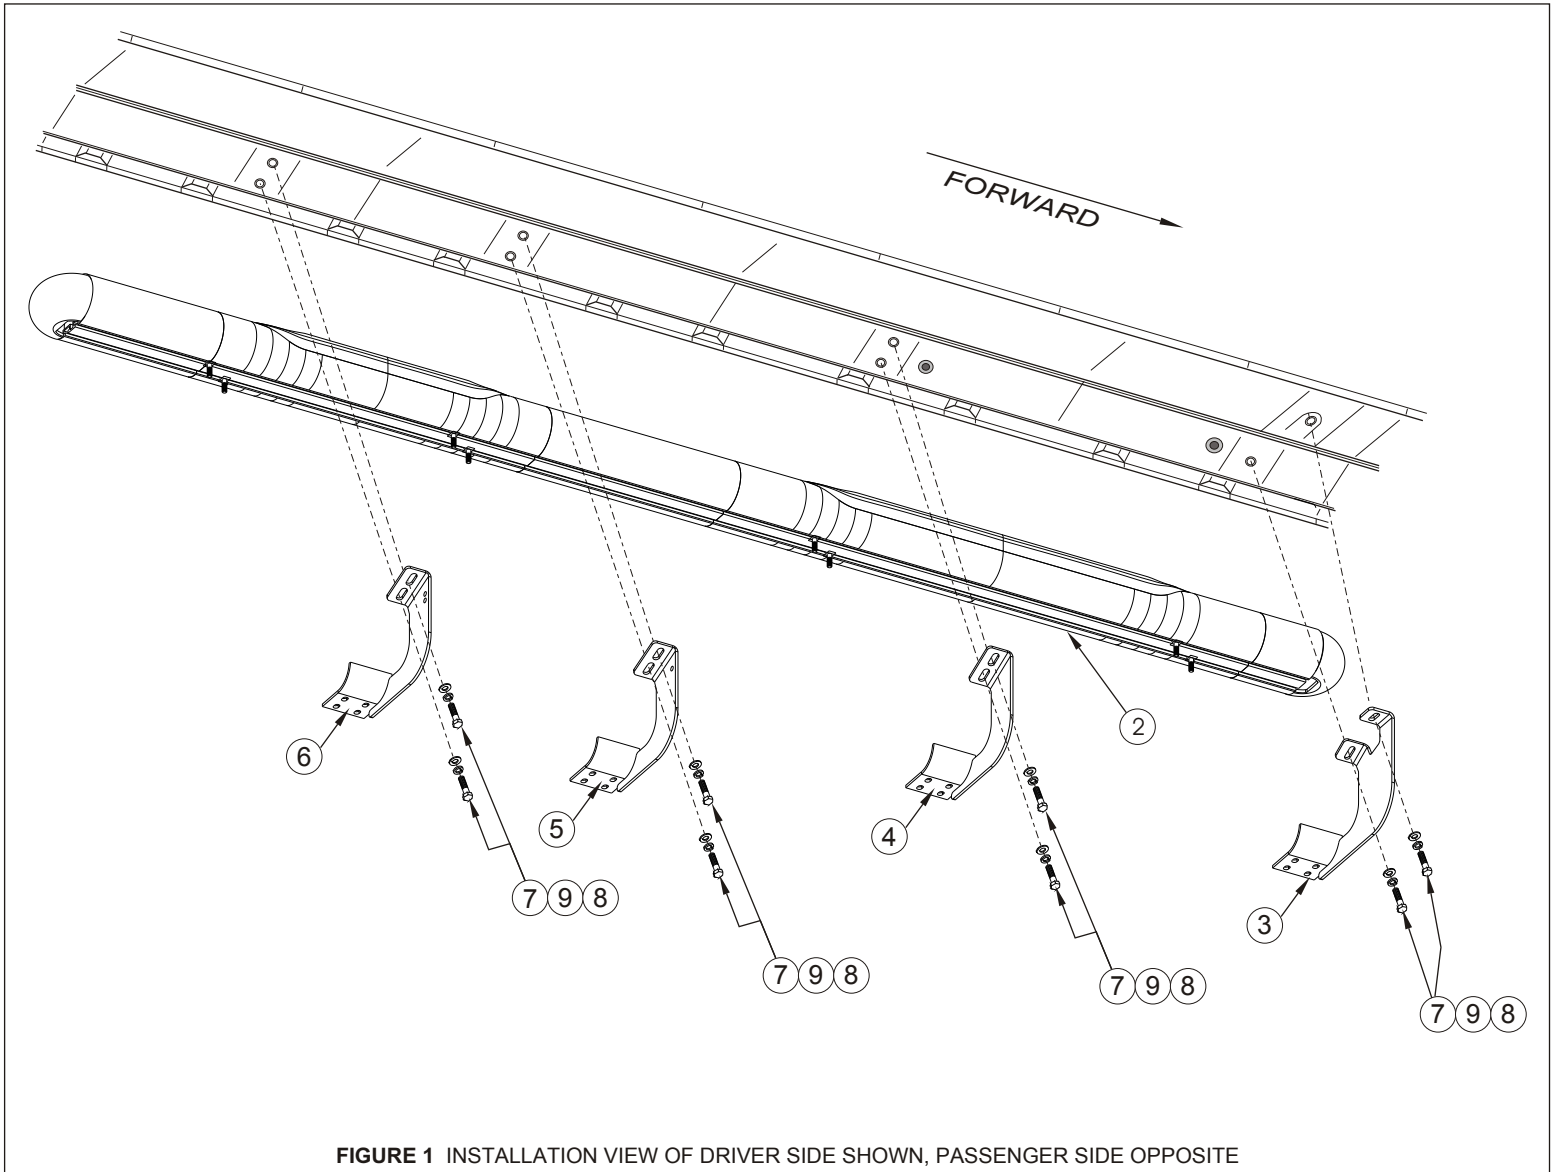

FIGURE 1 INSTALLATION VIEW OF DRIVER SIDE SHOWN, PASSENGER SIDE OPPOSITE
- STEP 3. Attach drivers side brackets to underside of body panel using two M8-1.25 x 30mm hex head bolts, 3/8" flat washers, and 3/8" lock washers per bracket. Hand tighten. **SEE FIGURE 1.**